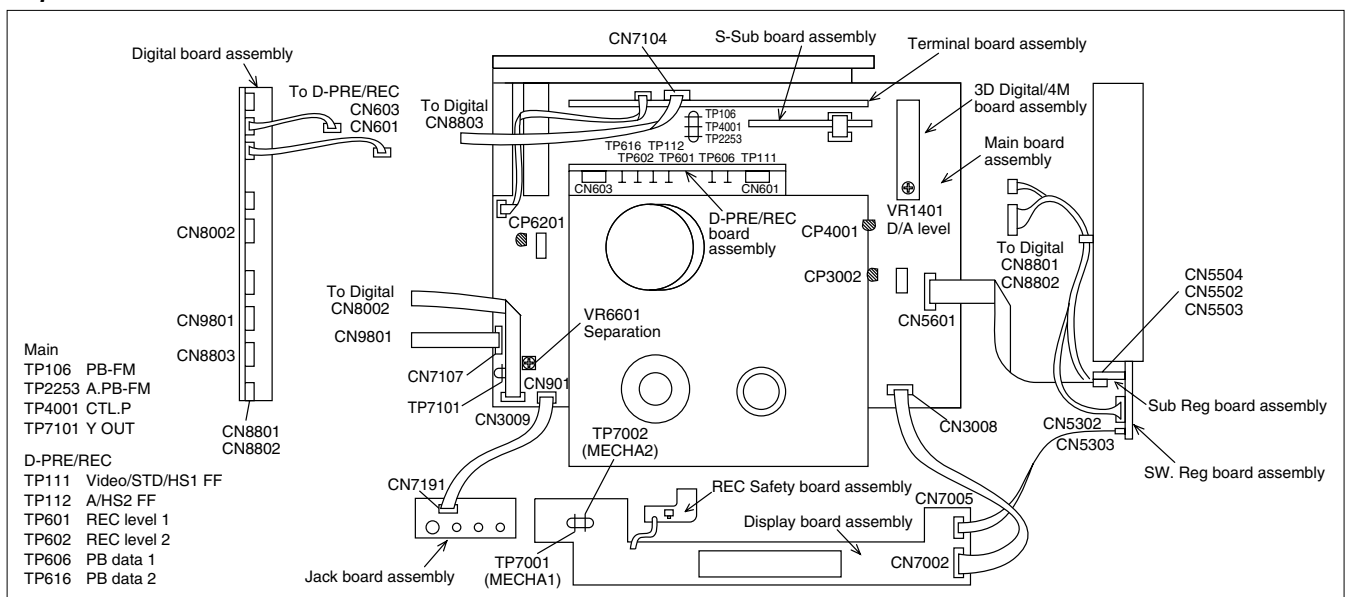

Fig. 1-4-1a
- (1) Refer to the disassembly procedure and perform the disassembly of the major parts before removing the D-PRE/REC board assembly.
- (2) Remove the screws attaching the mechanism assembly with the chassis assembly. Remove the screws attaching the board assembly, if necessary.
- (3) Remove the combined Mechanism and Main board assemblies.
- (4) Connect the wires and connectors of the major parts that have been removed in step (1). (Refer to Fig.1-4-1a.)
- (5) Place the combined Mechanism and Main board assemblies upside down.
- (6) Insert the power cord plug into the power outlet and then proceed with the diagnostics and servicing of the board assembly.